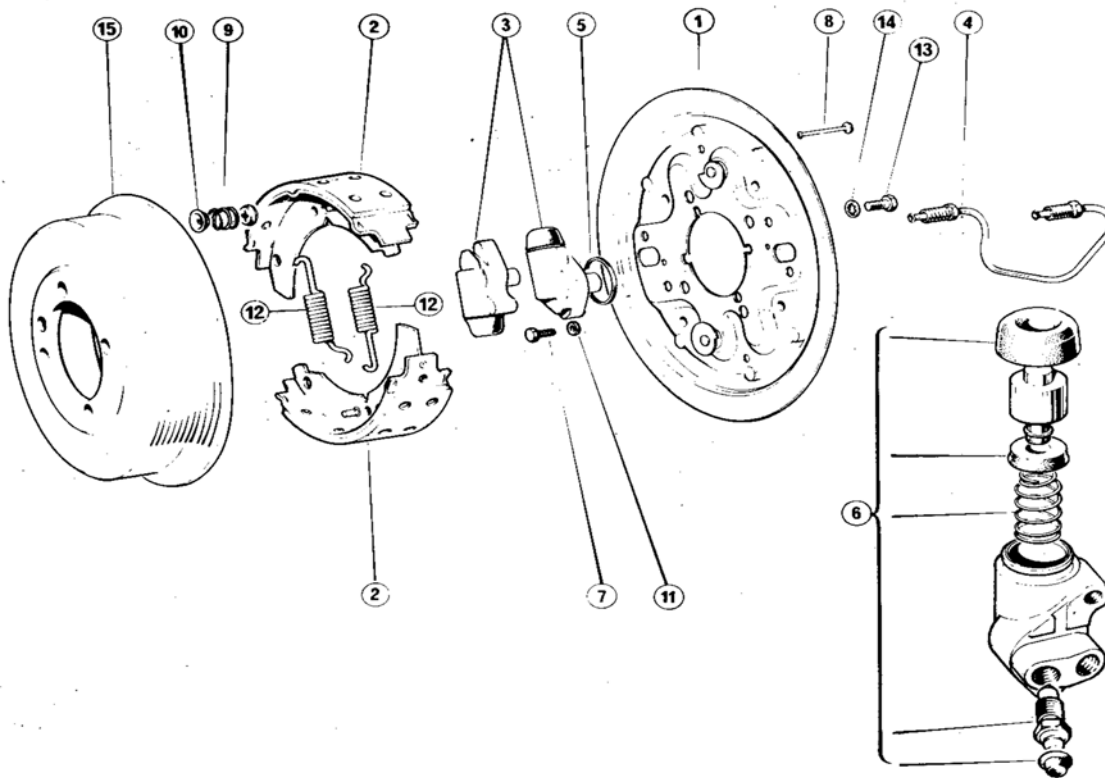

Figure 4 Front brake
Front brakes - fitting new shoes (Figure 4)
1. Attach new return springs to the new shoes, ensuring the springs are correctly located and positioned such as they are between the shoe webs and the brake plate on assembly (Figure 4)
To remove (Figure 4)